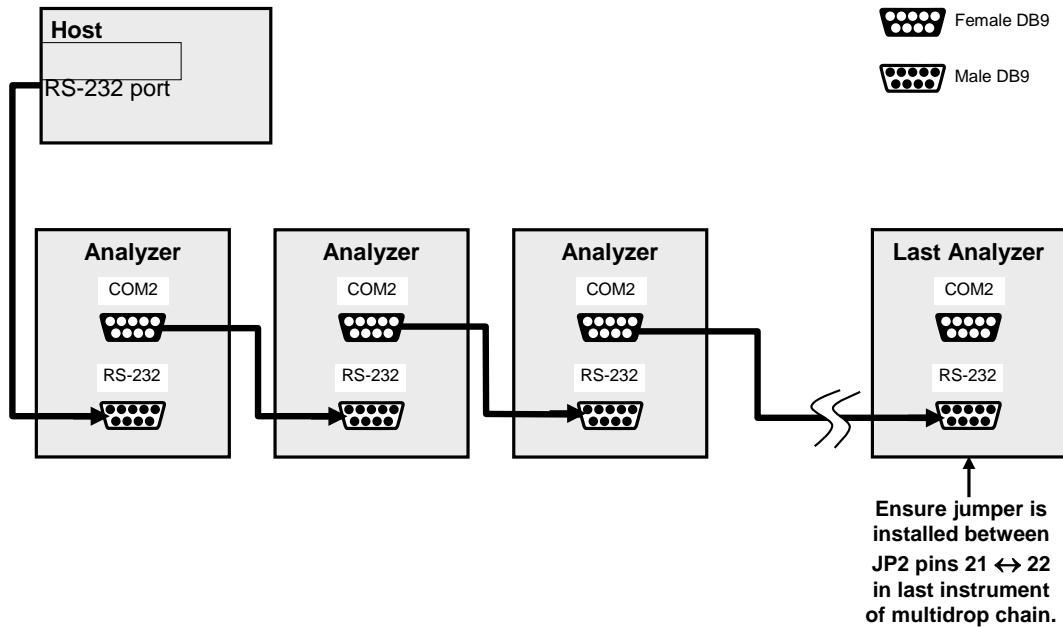

**Figure 4-9. Jumper and Cables for Multidrop Mode**
In each instrument with the Multidrop option there is a shunt jumpering two pins on the serial Multidrop and LVDS printed circuit assembly (PCA), as shown in Figure 4-9. This shunt must be removed from all instruments except that designated as last in the multidrop chain, which must remain terminated. This requires powering off and opening each instrument and making the following adjustments:
2. On the Multidrop/LVDS PCA's JP2 connector, remove the shunt that jumpers Pins 21 ↔ 22 as indicated in Figure 4-9. (Do this for all but the last instrument in the chain where the shunt should remain at Pins 21 ↔ 22).
3. Check that the following cable connections are made in *all* instruments (again refer to Figure 4-9):